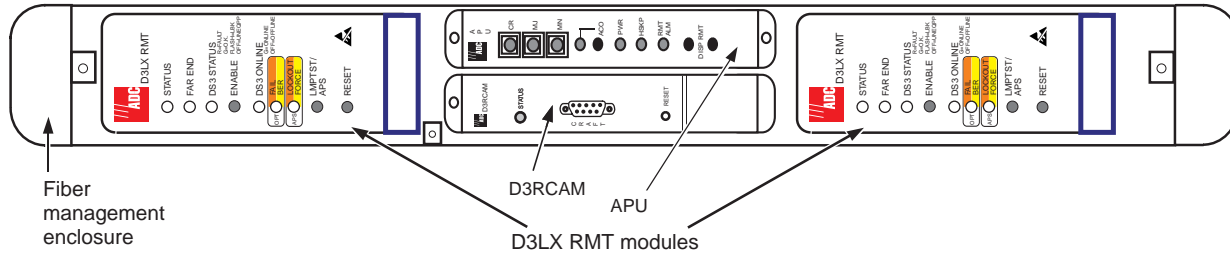

Figure 10. D3LX RMT Module Locations in a Two-Position QLX Remote BNC Chassis
- 2 Route the fiber patch cord through the left side of the fiber management enclosure located on the remote terminal as shown in Figure 10. The protective cover must remain on the fiber connector to prevent dust and damage to the connection. The fiber should be tagged to identify the circuit.
- 4 Refer to Figure 10 for D3LX RMT module locations chassis and slot corresponding to the DS3 signal.